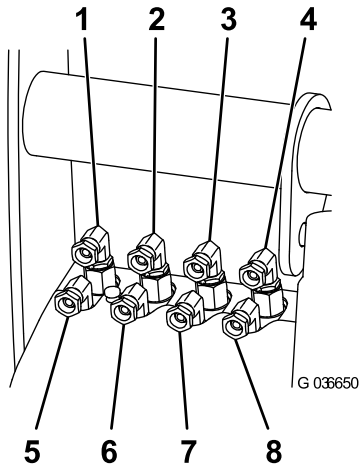

Figure 7
Refer to Figure 7 when installing the hoses to the hydraulic shelf.
1. Connect a 2 m (79 inch) hose to the XL2 port on the hydraulic shelf, and a 1.6 m (64 inch) hose to the XL1 port (Figure 7). Turn the fitting until it is finger tight, then turn it another 1/4 to 1/2 turn.